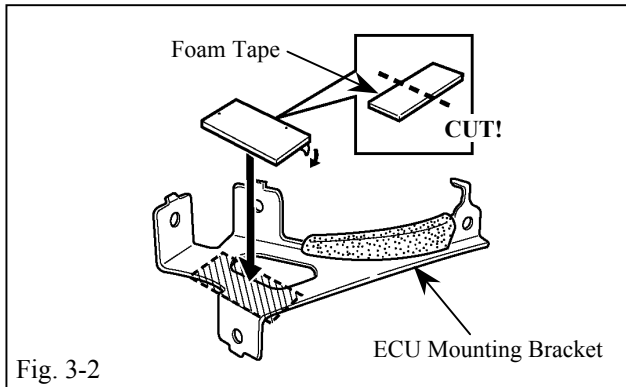

Fig. 3-2
(b) Apply ½ piece of foam tape to the ECU bracket as shown. (Fig. 3-2)
- (e) Use the piece of foam tape that was previously cut (remainder of Fig. 3-2), and apply to the edge of the V5 ECU. (Fig. 3-5)